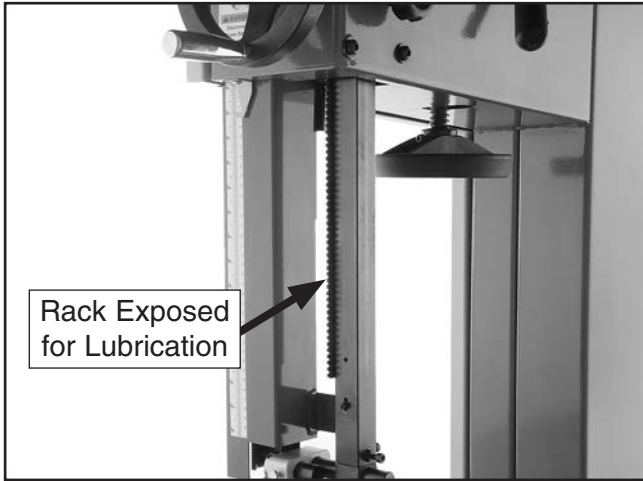

Figure 99. Example of rack lubrication location.
- Using a rag and mineral spirits, wipe off any existing grease and sawdust build-up on the rack (see **Figure 99**).